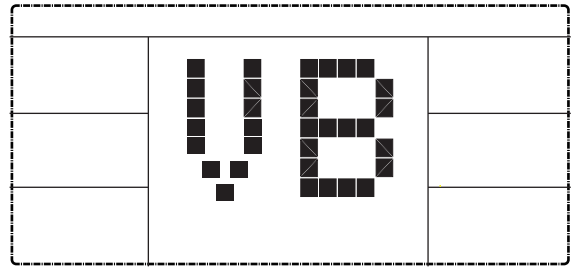

Fig.2
2. The console will display the type for 2 seconds (Fig 2), then the console will prompt you to enter the Water Level (L1~L6), and the window displays the Water Level value and flash to indicate selection. (Fig 3).